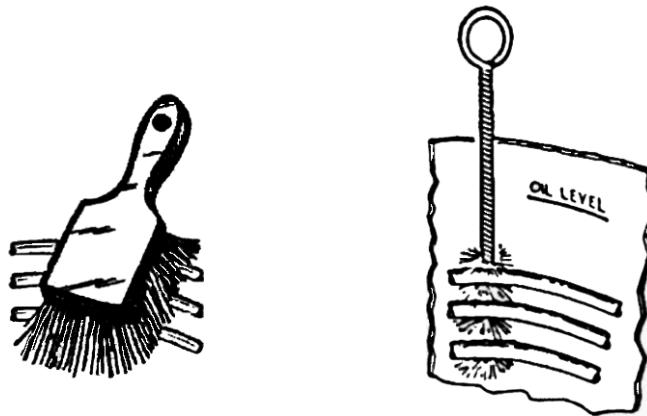

FIGURE 26
9. **BRUSH HEATERS** with white, teflon brush, clean heaters, heater holders, and all of cookpot (FIG.26). Do not use steel wool.